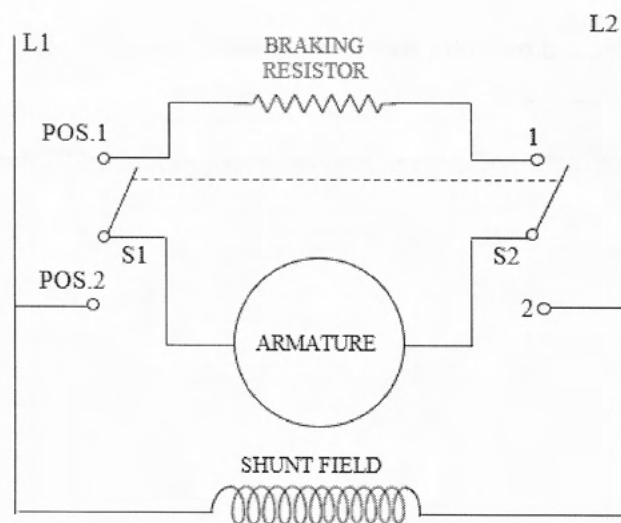

Figure 2 –
5. Turn power off. Now with the motor, the double pole double throw knife switch connects up the circuit shown in (figure 2). Connect the three resistors in series for your dynamic braking resistance. Have your instructor check your connections.